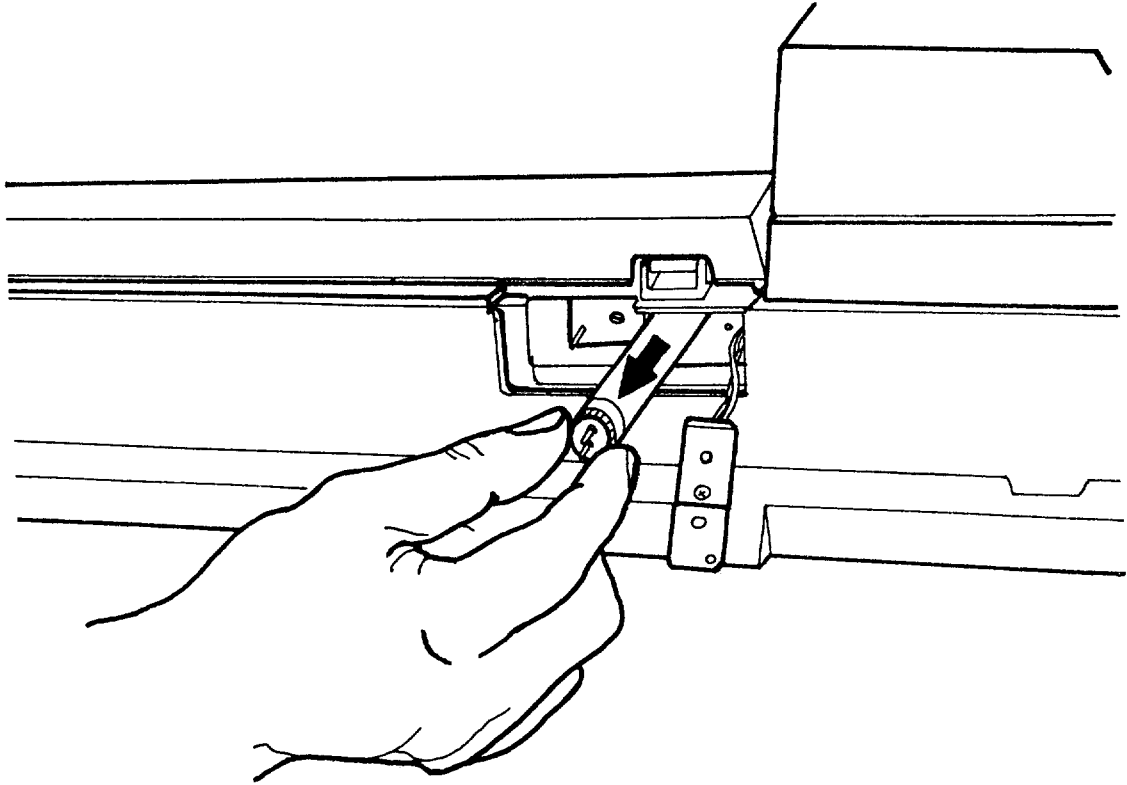

Figure 4.7 Replacement of the lamp unit:
13. Remove the lamp from the scanner by pulling it straight out. If the lamp is difficult to remove, use pliers to remove it, as shown in Figure 4.7.